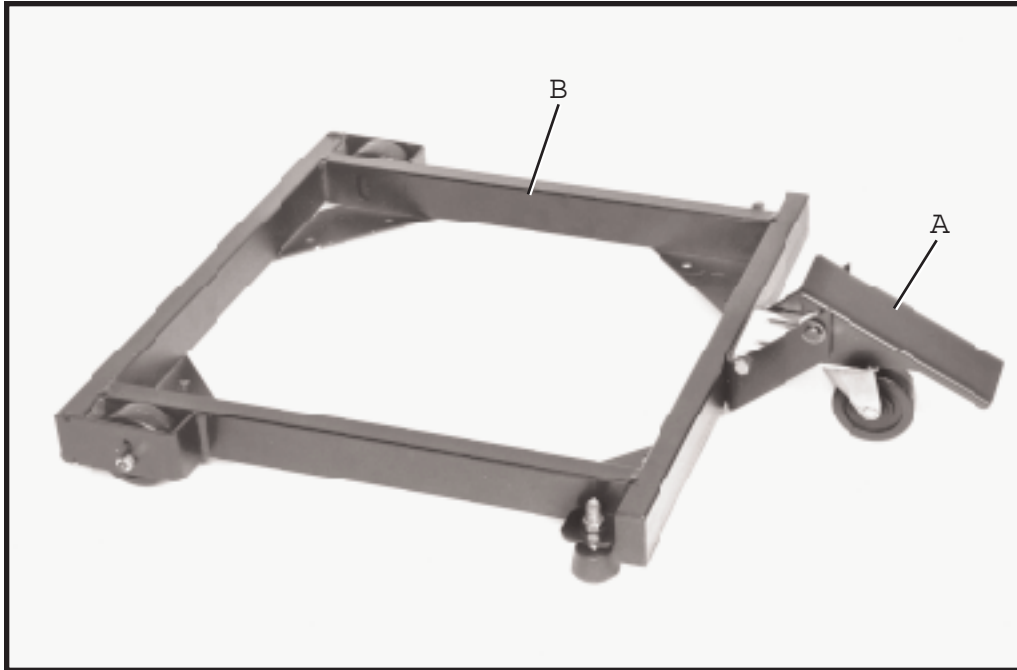

Fig. 8
1. To raise the mobile base (B) Fig. 8, and allow movement to a new location, push foot lever (A) downward until the foot lever locks into position.
2. To lower the mobile base (B) Fig. 8, so it is supported by the floor surface, flip foot lever (A) upward.